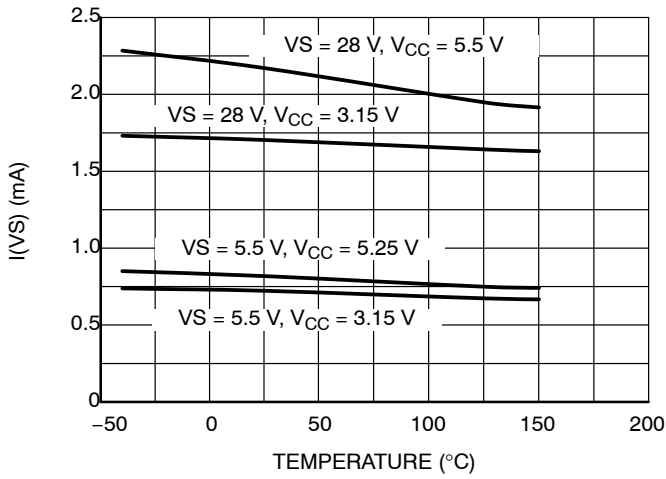

Figure 10. I(VS) vs. Temperature
6. Refer to Figure 10. I(VS) versus Temperature.